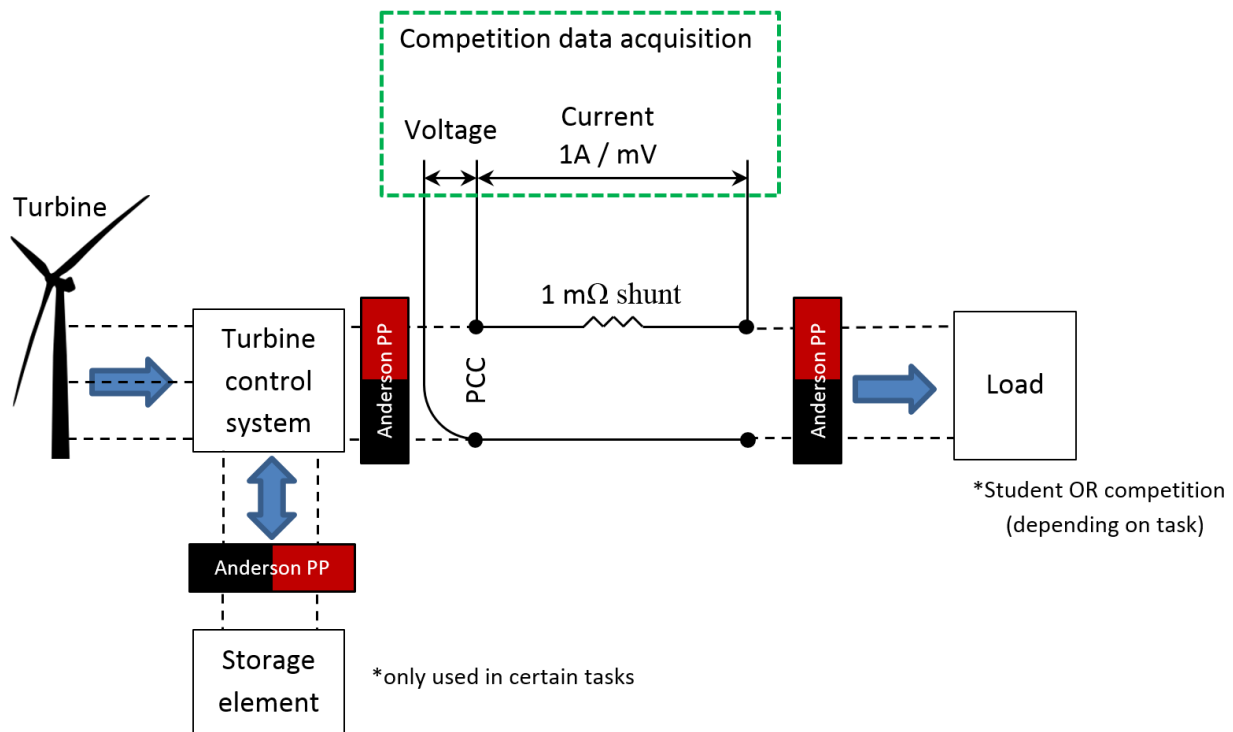

Figure 4. Load, turbine, storage element, and point of common coupling arrangement
- Wires should exit the tunnel at the turbine base through the center of the turntable. From this point, each team must provide a length of wire approximately 1 meter in length to reach the point of common coupling (PCC) on the student side of the tunnel, where they will join with the load connectors from either of the two loading systems. The competition instrumentation will be inserted at this point (Figure 4). A table will be provided to display the load on the opposite side of the tunnel from the judges and the PCC. Teams should provide adequate lengths of wire to run from the PCC to the load to accommodate their desired load display arrangement on the table.